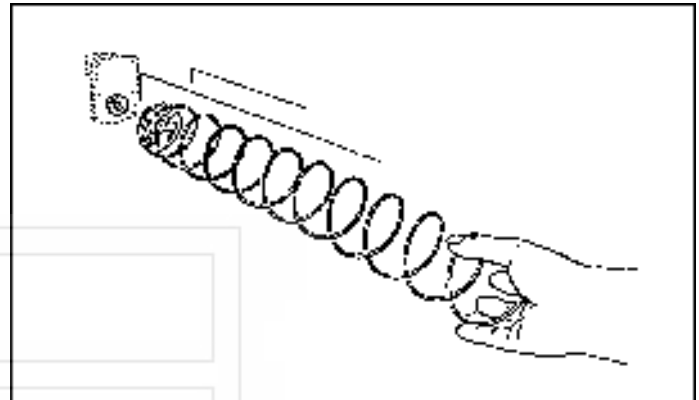
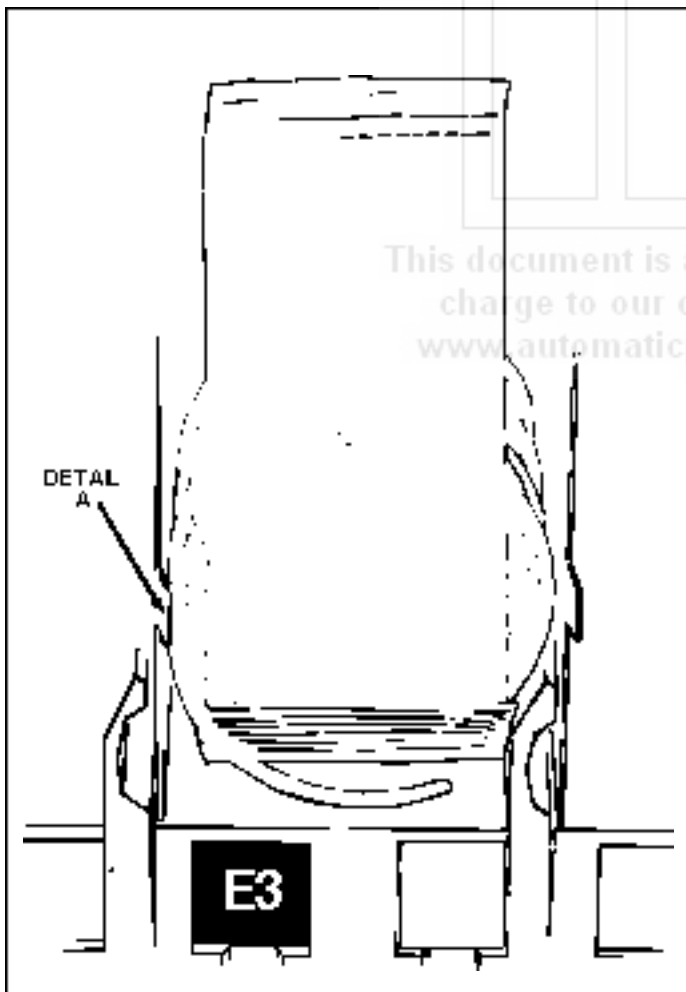

Figure 3. Removing and installing spiral.
Figure 5. Placement of product on main product candy shelves and front end of spiral.
4. **Removal of Spiral.** Grasp the front of the spiral and turn it clockwise. Lift the spiral up and off of the spiral lock and turn the spiral counterclockwise to lock it in place. Be sure the front end of the spiral is positioned properly (with the front end of the spiral pointing downward on the left side). (*Figure 3.*) The spiral lock is attached between the spiral retainer tabs. Give a light forward pull on front of the spiral to check if it is locked in place.
6. **Loading Main Product Candy Shelves.** The 8-selection (candy type) shelves are loaded similar to the 4-selection shelves, except that, the bottom of the product sits on the shelf in front of the spiral wire (Figure 5.) that rests on the shelf. These products must also fit properly in the spiral
space. **Do not force product into spiral.** These spirals are removed and installed the same as the large spiral (Figure 3.), except that, the front end position is different (approximately 5 o'clock) (Figure 5.) and the front left side of the spiral must be behind the small tab located on the left side of the product space side wall. (Figure 5., Detail A)